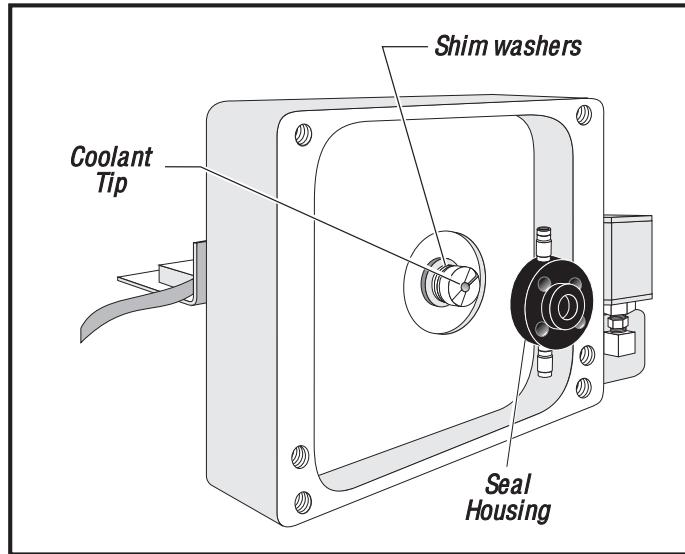

Figure 5. Coolant tip and seal housing (TSC machines only).
5. The clearance from the tool holder to the block should be zero (0). To accomplish this, set the jog increments to .001 and jog in the negative (-) Z direction a few increments at a time. Between these moves, push the TOOL RELEASE button and feel for movement by placing your finger between the tool holder and the spindle. ***Do this until no movement is felt.*** You are now at zero (0).
6. Press the MDI key and turn the jog handle to zero (0). Press HANDLE JOG. Jog the Z-axis in the positive (+) direction .100".
- If the block is tight at 0.070 or less, the Coolant Tip (Figure 5) must be replaced. Call your dealer for replacement of the Coolant Tip and the seal housing.